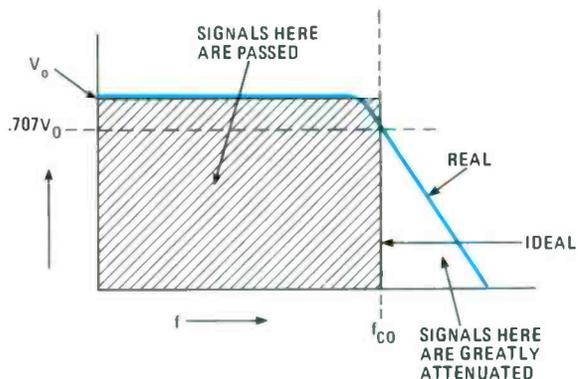

Fig. 1—This frequency response curve is for a low-pass filter. It shows how the output of the filter drops dramatically after the cut-off frequency.
A low-pass filter allows signals with frequencies lower than a designated cut-off frequency to pass, but will highly attenuate signals above the cut-off frequency. Figure 1 shows the response curve of an ideal low-pass filter. This curve is a plot of the output voltage (V_O) vs. frequency. Note the sharp drop-off in output at the cut-off frequency (f_{CO}). Frequencies above that point are effectively eliminated.
characteristics. Practical filters do not have such rapid or abrupt attenuation at the cut-off. Instead, the attenuation increases gradually with frequency. Figure 1 also shows the response curve of a real low-pass filter. The cut-off point is that frequency where the output voltage drops to 70.7% of the output voltage ($.707V_O$) at zero frequency (DC). Beyond the cut-off frequency, the attenuation increases linearly.